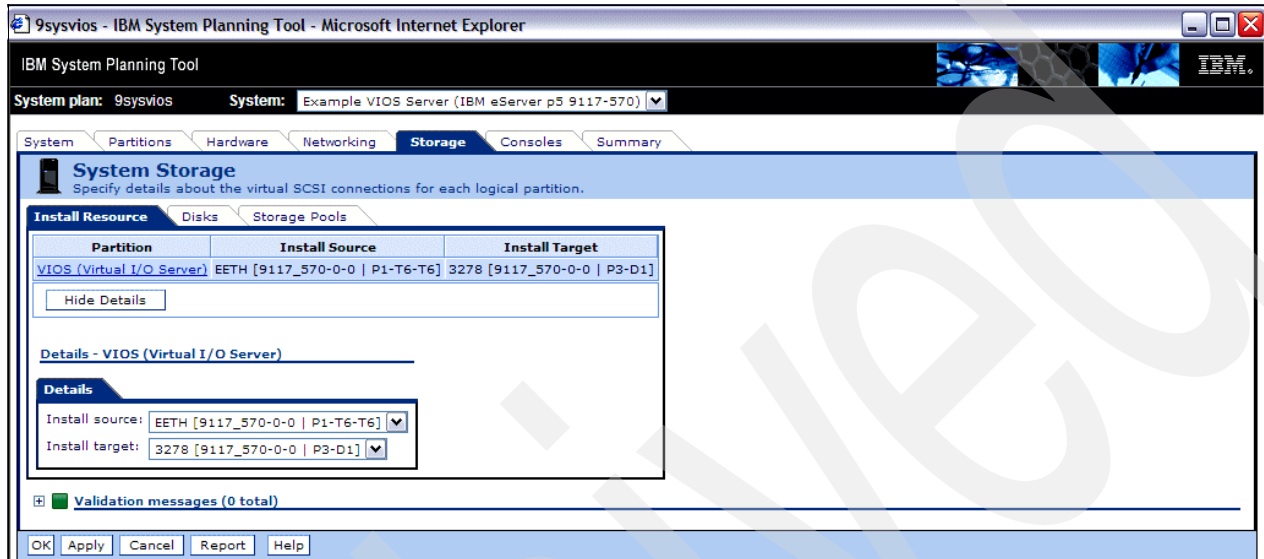

Figure 4-16 Install location for the source and the target
1. Using the Storage tab, as shown in Figure 4-16, define the source Ethernet adapter for the Virtual I/O Server install and the target disk volume for the Virtual I/O Server.